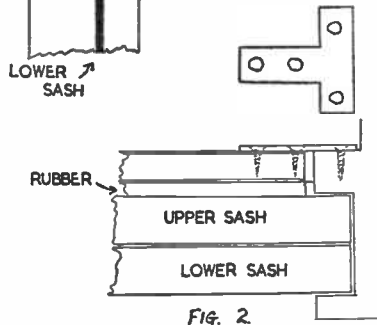

Fig. 2.
Brackets will have to be screwed to each end to fix the support to the window frame. Brass or iron brackets will serve this purpose and Fig. 2 shows how they are fitted. A little modification may be necessary on some windows but no difficulty should be found in dealing with this. As with the other fittings the strip of rubber is held down securely with a wooden bar 1½ins. wide, ¼in. thick and extending across the sash to cover all the glass.
45 degrees, place both pieces together again and across the joint at the back glue a strip of calico or similar strong, but thin material, as shown at C in Fig. 2. Leave for an hour or two for the adhesive to fix the joint firmly. Now give the edges of both parts of the article a thorough rub over with fine glasspaper, slightly rounding them. The vertical edges of the panel opening would also benefit with a little bevelling, which can be most conveniently done at this stage.
pair of small brass round-headed screws. The side detail (D) in Fig. 2) shows this method of attachment, the card sandwiched between being indicated in full black.